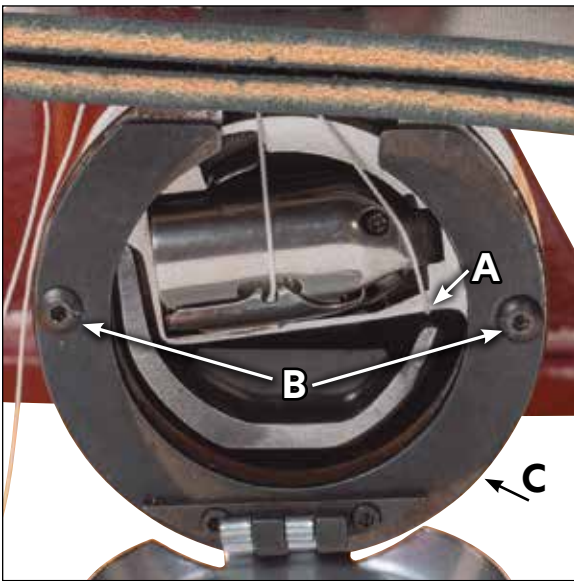

Figure 27
- 2) If the above fails, loosen the two race cover screws **(B)** until the hook **(A)** has snapped back. Do not remove the race cover **(C)**. After the hook **(A)** is back in place, retighten the race cover **(C)**. **(Figure 27)**